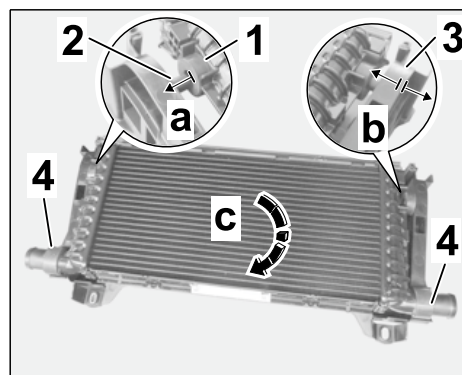

Figure 11
- 3.1.5 Push bottom rubber mounting at the left/right ⇒ *Figure 11-1-* onto the pins of the retaining frame ⇒ *Figure 11-2-* (⇒ *Figure 11-a-*). Press side section of retaining frame ⇒ *Figure 11-3-* aside if necessary ⇒ *Figure 11-b-*. Swivel radiator back ⇒ *Figure 11-arrow c-* until the top rubber mounting ⇒ *Figure 11-4-* engages securely in the brackets.